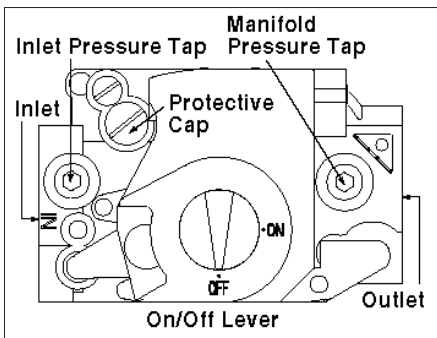

Figure 4. Gas Valve (Honeywell shown)
2. With a 3/16 inch Allen wrench, remove the INLET pressure tap plug located on the INLET side of the gas valve, refer to Figure 4 for more details.
1. With a 3/16 inch Allen wrench, remove the manifold pressure tap plug located on the outlet side of the gas valve. Refer to Figure 4.
5. Allow the furnace to operate for three (3) minutes and then check the manifold pressure. Compare the measured value with the value shown in Table 2. If the manifold pressure is not set to the appropriate pressure, then it must be adjusted.